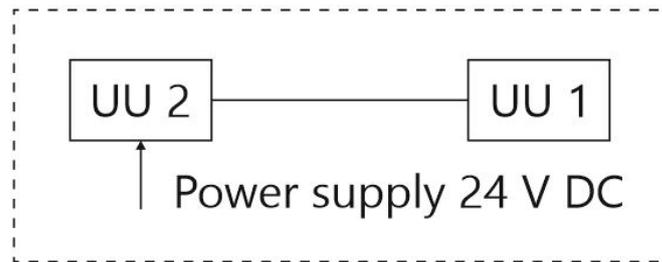

Figure 2 – Pair communication example of two UUs
- a) **Pair communication** – to organize direct communication (w/o CU) of two UUs interconnected according to «point-point» pattern (see Figure 2). This type is supported by S1, S1W, S2, S3.